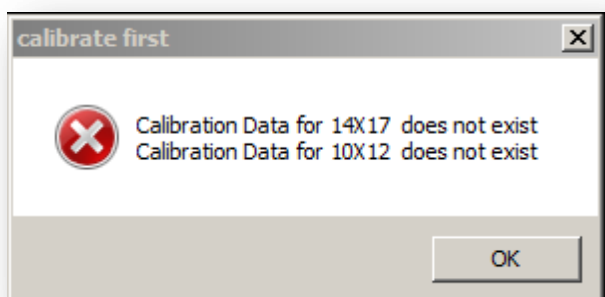

Figure 2
2. Once you Login you will receive a “calibrate first” pop up message box. **Figure 2**